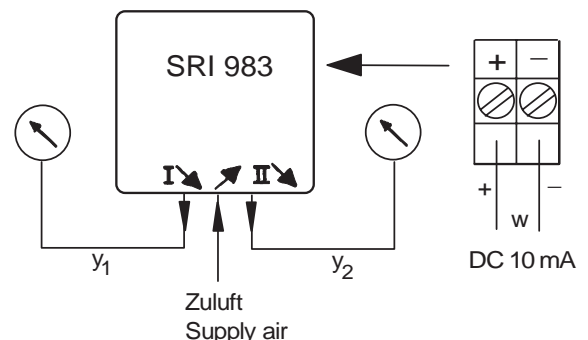

Fig. 29: Test circuit for double acting positioner
- Connect positioner as shown in the test circuit, fig. 29, preset supply air to 6 bar.